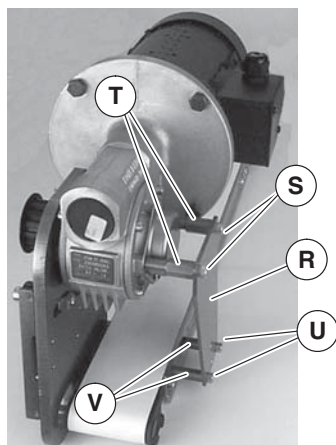

Figure 13
Install hex posts (Figure 13, item T). Attach wide end of support plate (R) to hex posts with screws (S). Attach narrow end of support plate to conveyor, using spacers (V) and screws (U). Tighten screws to 80 in-lb (9 Nm).